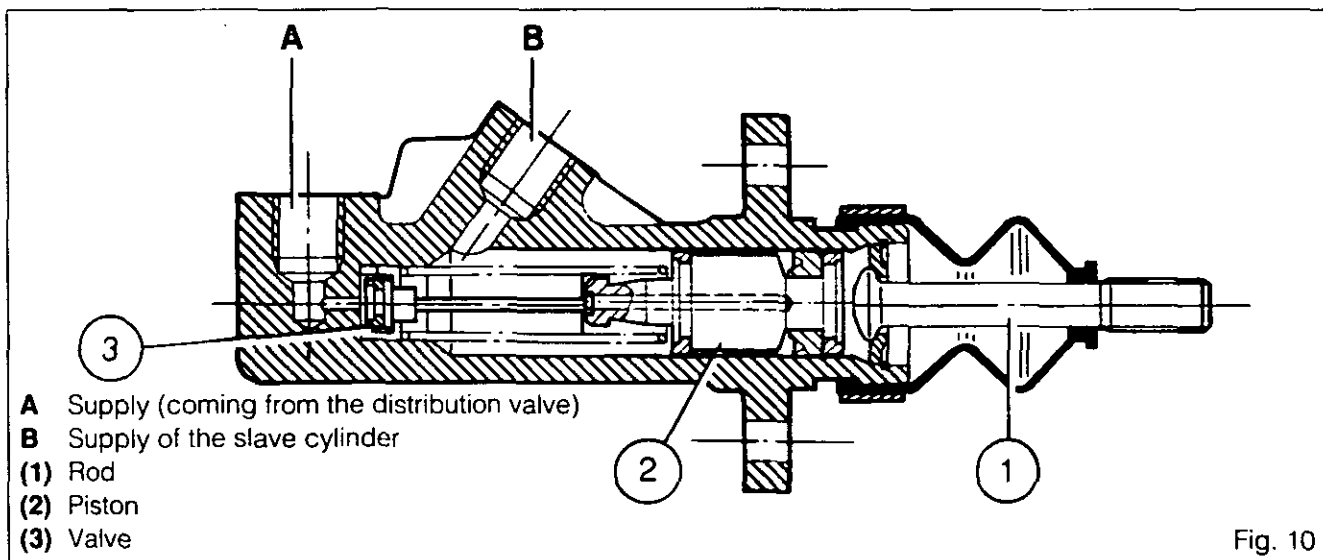

Fig. 10
**Hydraulics - Master cylinders****E. Clutch master cylinder****Operation (Fig. 10)**